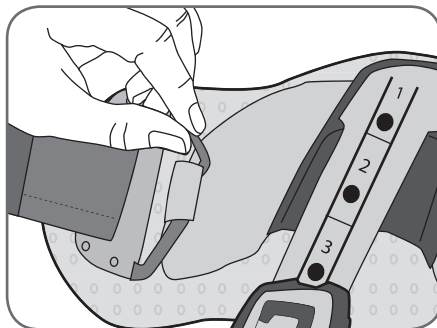

Figure 9-17: Hooking the new silicone panel to the Thigh FS Cuff.
7. Gently hook the new silicone panels to the Thigh FS Cuff. See Figure 9-17.